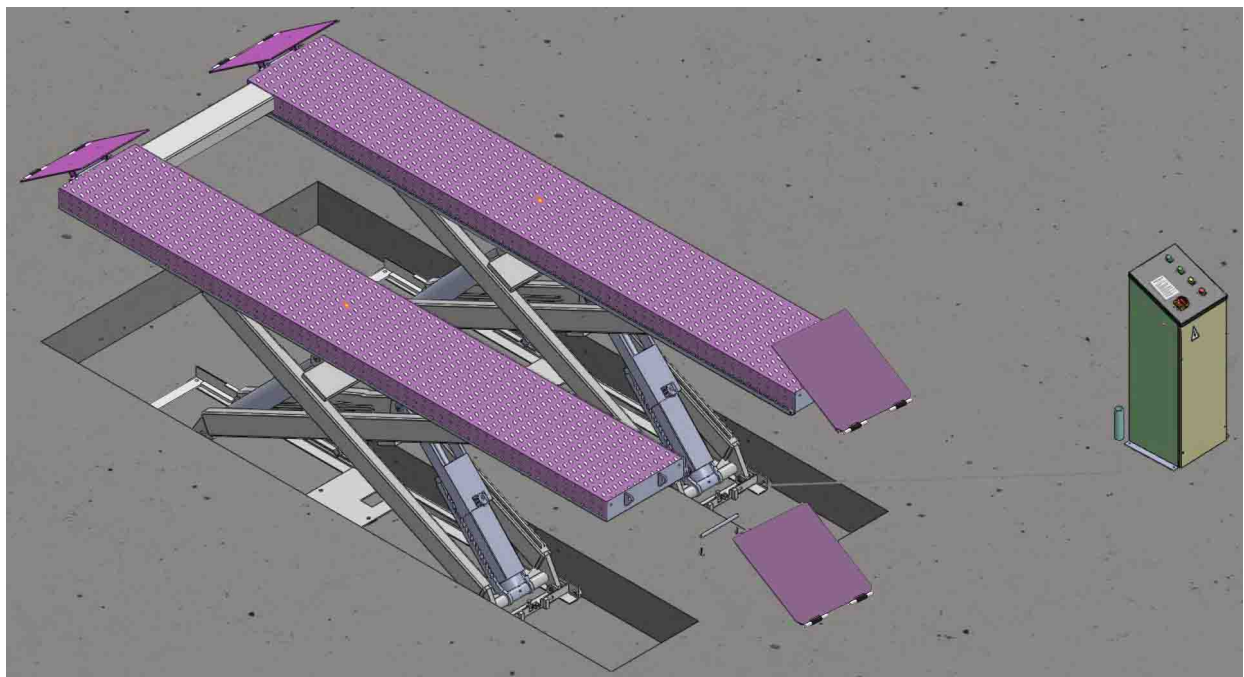

Fig. 8
2.2 Illustration of scissors lift **AX-12** with flush mount installation (Fig.8).